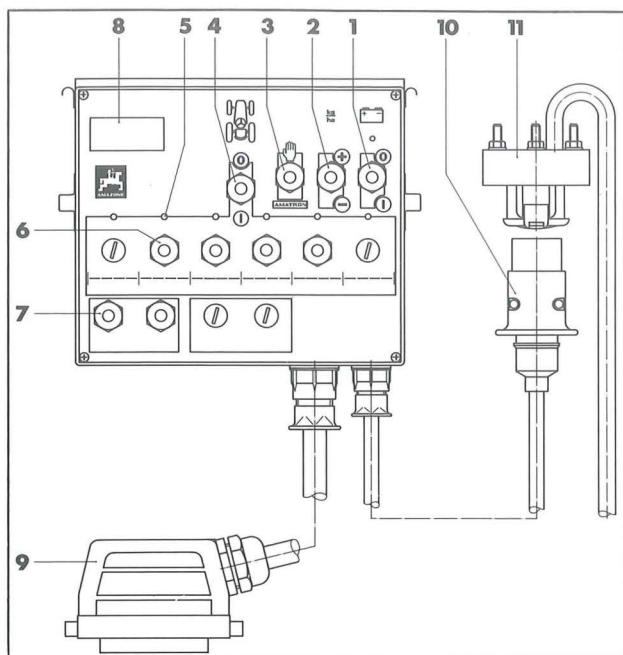
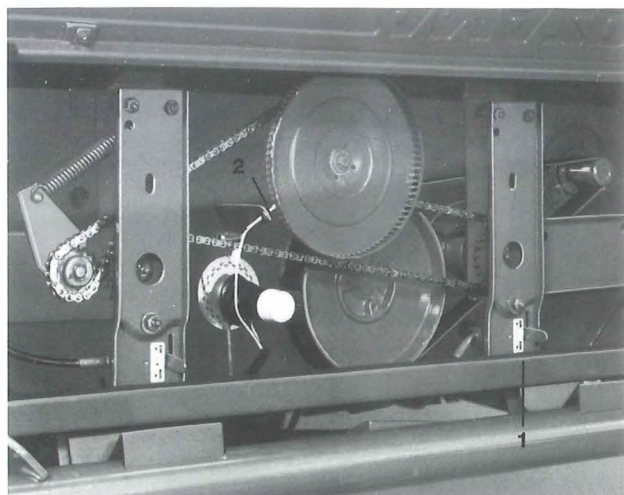

Fig.4
Fig. 11
3.6 Connecting of control box SKJ 1 (JET) (Fig. 4)
The electrical remote control box is separately packed and is connected to the machine with an implement plug to the machine with an implement plug (Fig. 4/9). For the electrical supply the enclosed connecting cable should be directly fitted to the tractor's battery (12 volt), blue to earth, negative and brown to plug. Put in plug (Fig. 4/10) into the socket (Fig. 4/11).
Description of the function of the individual switches (Fig. 4)
The spread rate depends on the revolving speed of the metering roller and the chosen tractor forward speed. The metering rollers are driven by the oil-motor; the ratio oil-motor/metering unit is equivalent to 1 : 1.6. to 1 : 1.6. With the aid of the three-way oil flow control valve which is actuated by a setting motor the amount of oil being fed and thus the revolving speed of the oil-motor/metering roller is steplessly controlled. The setting motor is controlled by switch 2 (Fig. 4) of the SKJ.
- Switch on battery main switch (Fig. 4/1).
- Set right hand metering roller dog clutch by hand to “Aus”/“Out” (Fig. 11/1). The left hand metering roller stays disengaged.
- Set oil motor speed to 50 with the aid of switch 2 (Fig. 4).
- Switch on battery main switch 1 (Fig. 4) and the oil-motor. Simultaneously switch off the metering unit at switch 4 (Fig. 4).
- Briefly switch on and again off the left hand metering unit by switch 6 (Fig. 4), so that the metering unit is charged with fertilizer. For safety sake the right hand metering unit may be switched to “Aus”/“Out” by hand (Fig. 11/1).
- Set speed of oil motor with the aid of switch 2 (Fig. 4) to 50.
- Switch briefly on and again off several times left hand metering unit with both switches 6 (Fig. 4) (the metering units must be charged with fertilizer). Empty bucket.